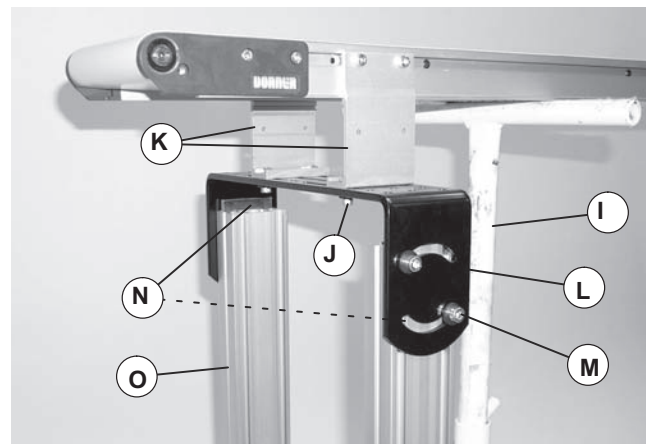

Figure 3
Figure 3 shows a 2" (51mm) to 12" (305mm) stand mounting bracket (L). Removal of the two stand mounting brackets used with support stands wider than 12" (305mm) is similar.
1. Place a support (Figure 3, item I) below conveyor.